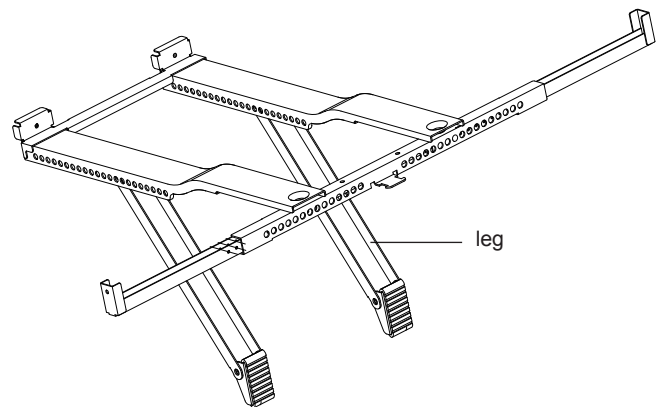

Fig.2
B. Attach Legs: slide leg into support rail while pressing BOTH spring buttons. Release button so that it extends out from the inner or outer hole of support rail. Repeat for second leg. See Fig.2